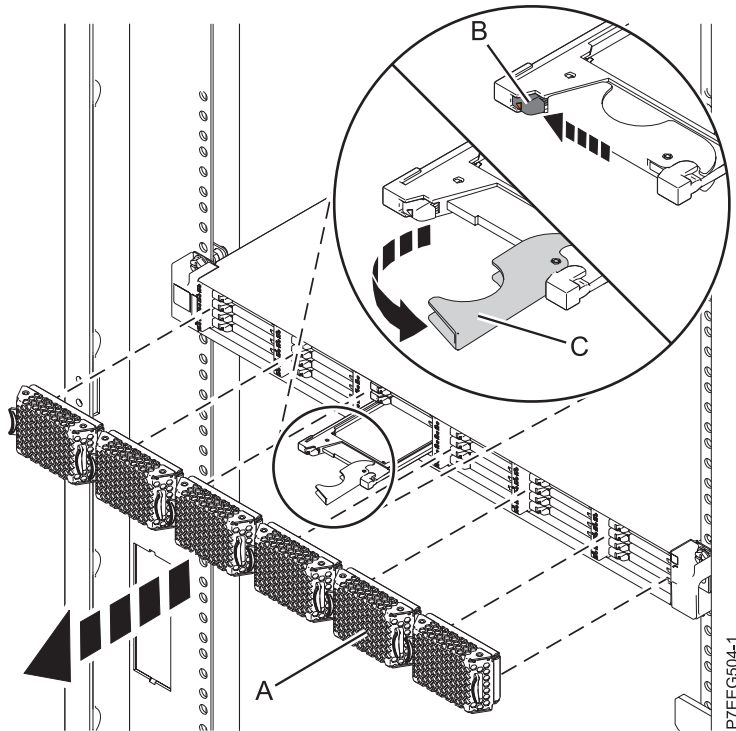

Figure 22. Removing the solid-state drive from the EDR1 PCIe storage enclosure
4. Pull off the bezel (A) that covers the slot that contains the solid-state drive.
5. When the solid-state drive identify LED turns on solid, slide the release latch (B) over gently to unlock the drive handle. See Figure 22 on page 36.
6. Grasp the handle (C) and pull the drive partially out of the slot.